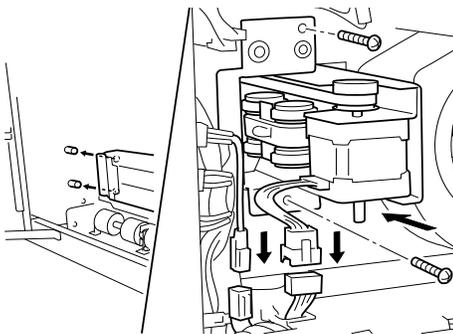

Figure E-5
7. Install the harness on to PWB-F to the PJ-7 connector. Install the harness in the cable clamp. (Figure E-5)